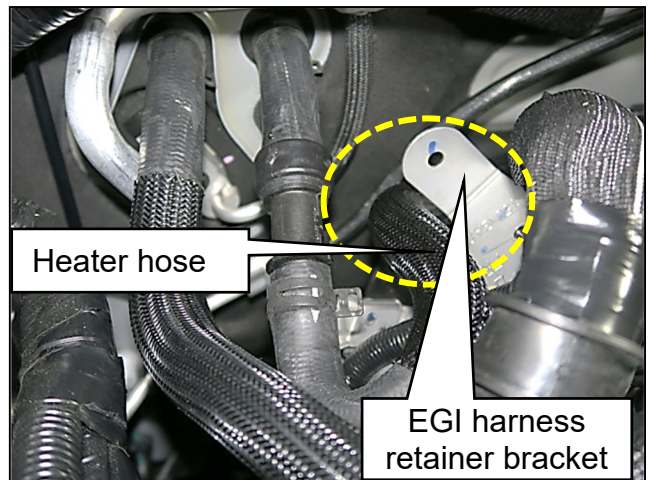

Figure 10
8. Carefully move the heater hose, shown in Figure 10, down and hook it behind the EGI harness retainer bracket to allow unobstructed access to the EGI harness.